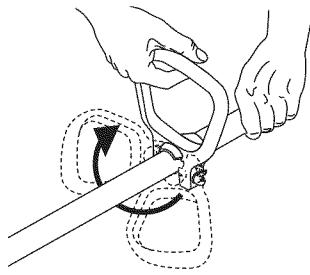

Fig. 1
- Locate the wing nut on the D-Handle. Loosen the wing nut enough to loosen the D-Handle (Fig. 1).
- Rotate the D-Handle to the upright position on the front side of the shaft housing (Fig. 1).